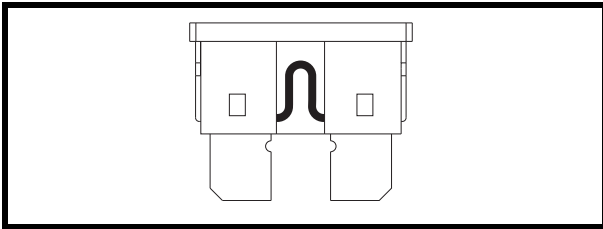

Figure 29. Working Fuse
2. Examine the fuse to be sure it is blown. See figures 29 and 30.